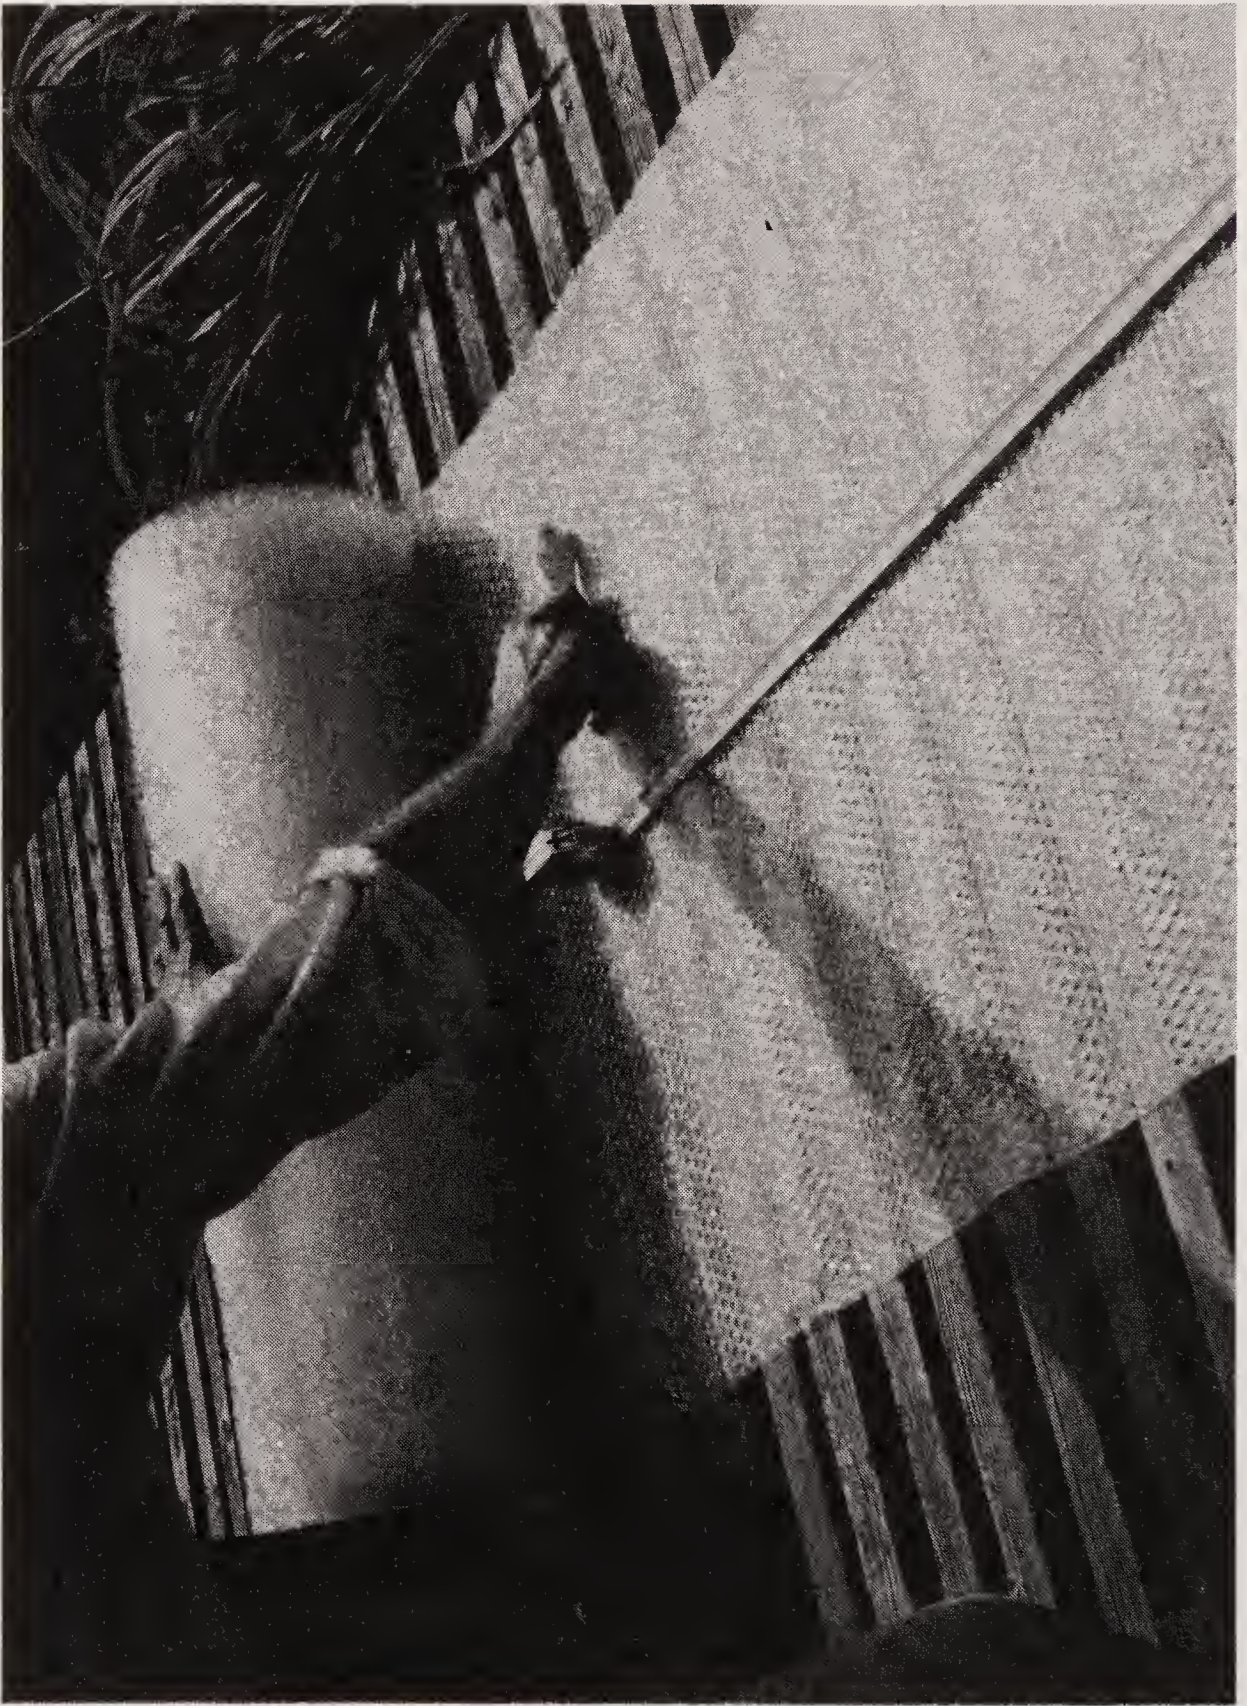

Fig. 4-8. Measuring insulating material (courtesy of Costitch and McConnell, for Lord & Burnham).
□ Measure the length of material required and precut strips long enough to cover each light (glass pane or length required for fiberglass or plastic houses cut either lengthwise or widthwise). See Fig. 4-8.